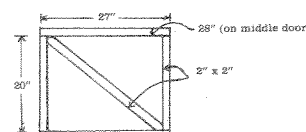

Figure 8: Door frame construction detail.
- 6) The doors are measured according to the actual hutch construction before the 2" x 2" (5 x 5 cm) lumber is cut, in case of small diversions from the original plans. The middle door will be an inch (2.5 cm) wider than the outside doors (Figure 8). The doors may be painted easily at this point before attaching the wire. Hinges may be placed according to preference. In addition to the hook and eye location on the lower one-third of the door for closing, turn buttons made of scrap lumber are convenient and should be considered as a part of the total construction effort.